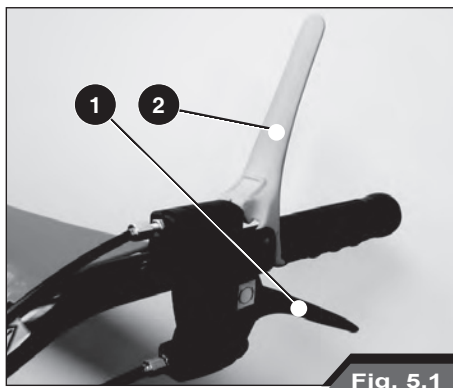

Fig. 5.1
- Check for your safety that the machine groundspeed and blade rotor engagement levers are in the vertical position (Fig. 5.1)